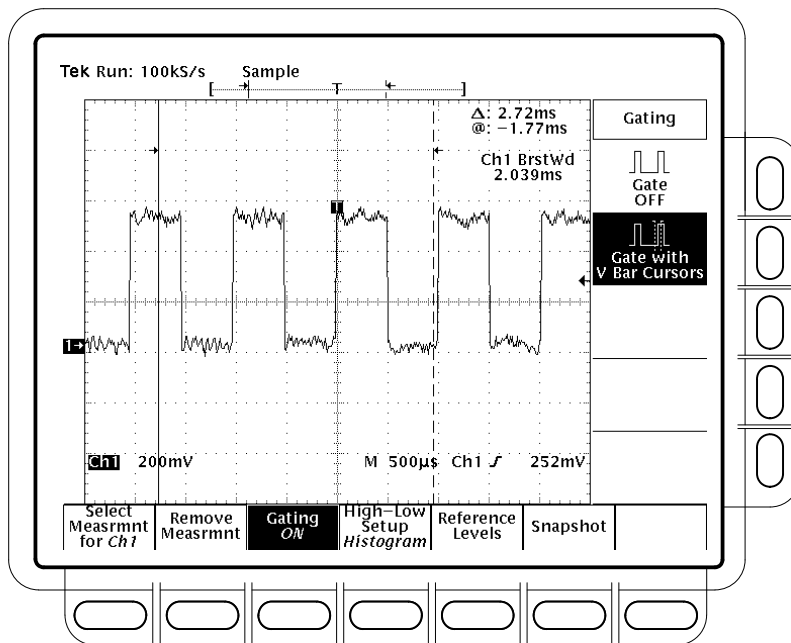

Figure 3-50: Measure Menu — Gating
1. Press **MEASURE** → **Gating** (main) → **Gate with V Bar Cursors** (side). (See Figure 3-50.)